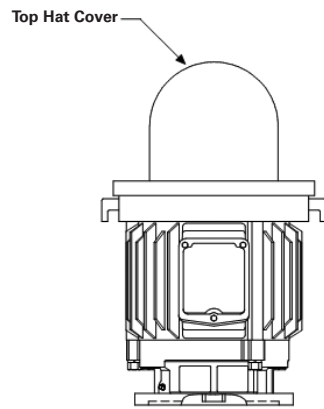

Figure 3: Motor Top Hat Cover Location
1. Disassemble the top hat cover from the motor by removing the top hat cover bolts. Refer to Figure 3. Carefully lift the cover from the motor.